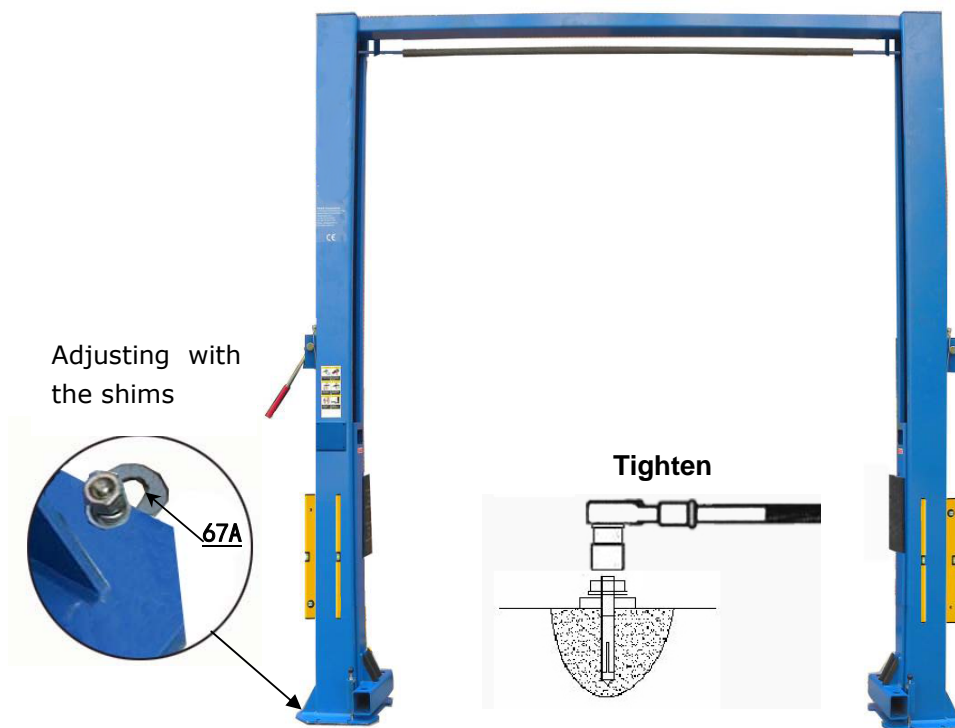

Fig. 21
J. Check the columns plumbness with level bar, and adjusting with the shims if the columns are not vertical. Tighten the anchor bolts (See Fig.21).